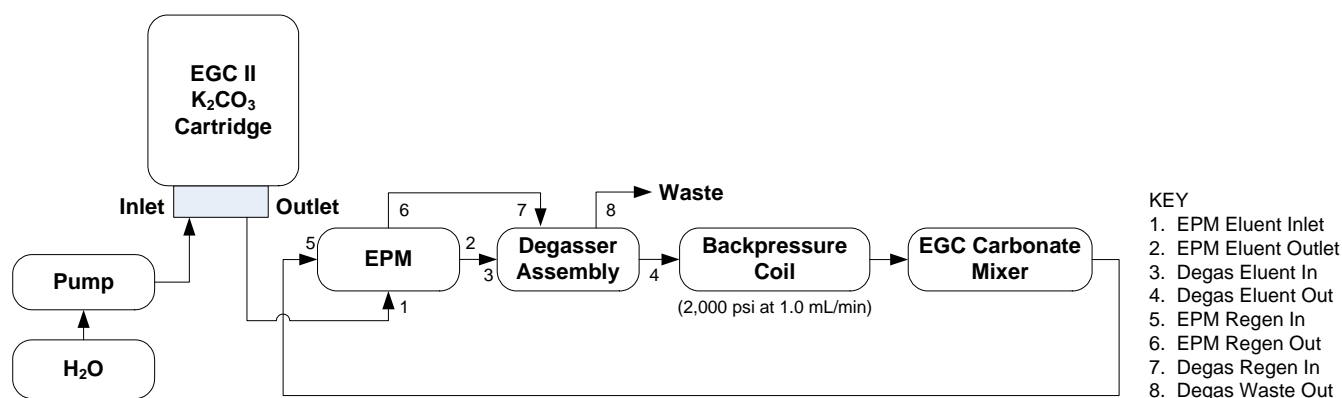

FIGURE 9
8. Complete the system plumbing as shown in Figure 9.